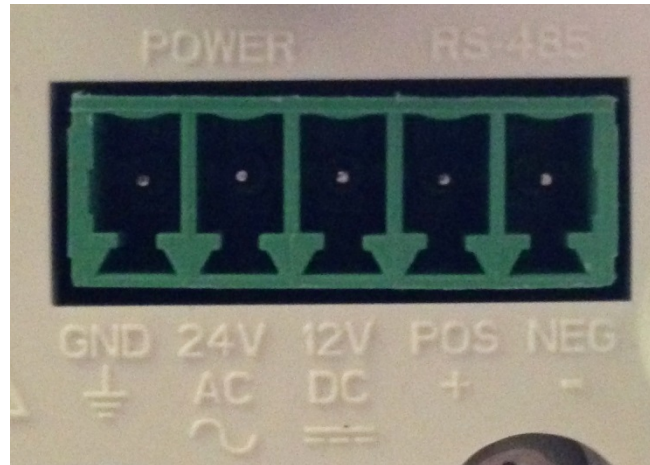

Figure 16: ZNT6-Hxxx Pin-Out
- c. AC/DC Power for ZNT6-Hxxx: Connect wires to power block according the pin-out shown in Figure 16:
- 4. RS-485: Connect wires to power block according to the pin-out shown in Figure 16.